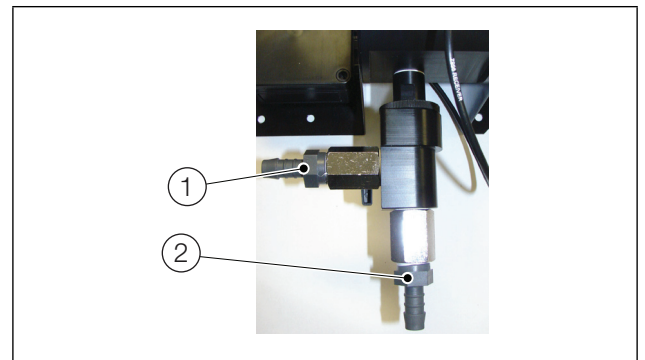

Fig. 5.1 Replacing hose connector assembly
2. Referring to Fig. 5.1:
- a. Using a 22 mm spanner, remove the defective hose connector assembly ① or ② as required.